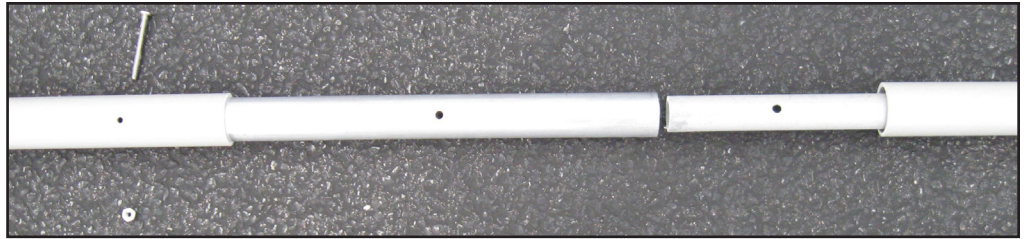

Fig. 63
- ☐ Insert the small fiberglass tube of the Driven Element Assembly Into the aluminum tube of the Boom Center Assembly as shown in Fig. 63.